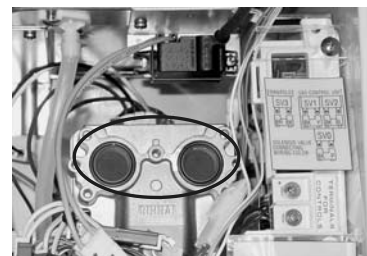

Figure 9
27. Make sure that the two black packings (Figure 9) are intact on the gas control assembly. Make sure that the ribbed side faces toward the manifold and that the flat side faces toward the gas valve. Attach the gas manifold with 3 machine screws at the gas control assembly. Replace the lower and upper packings (included in kit) for the manifold plate removing any residue.